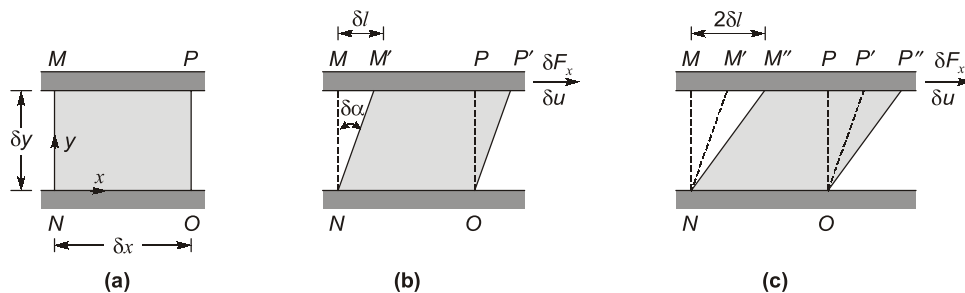

Figure 1.1 (a) Fluid element at time t , (b) deformation of fluid element at time $t + \delta t$, and (c) deformation of fluid element at time $t + 2\delta t$.
- Consider the behavior of a fluid element between the two infinite plates as shown in Figure 1.1 (a). The rectangular fluid element is initially at rest at time t . Let us now suppose a constant rightward force δF_x is applied to the upper plate so that it is dragged across the fluid at constant velocity δu . The relative shearing action of the plates produces a shear stress, τ_{yx} , which acts on the fluid element and